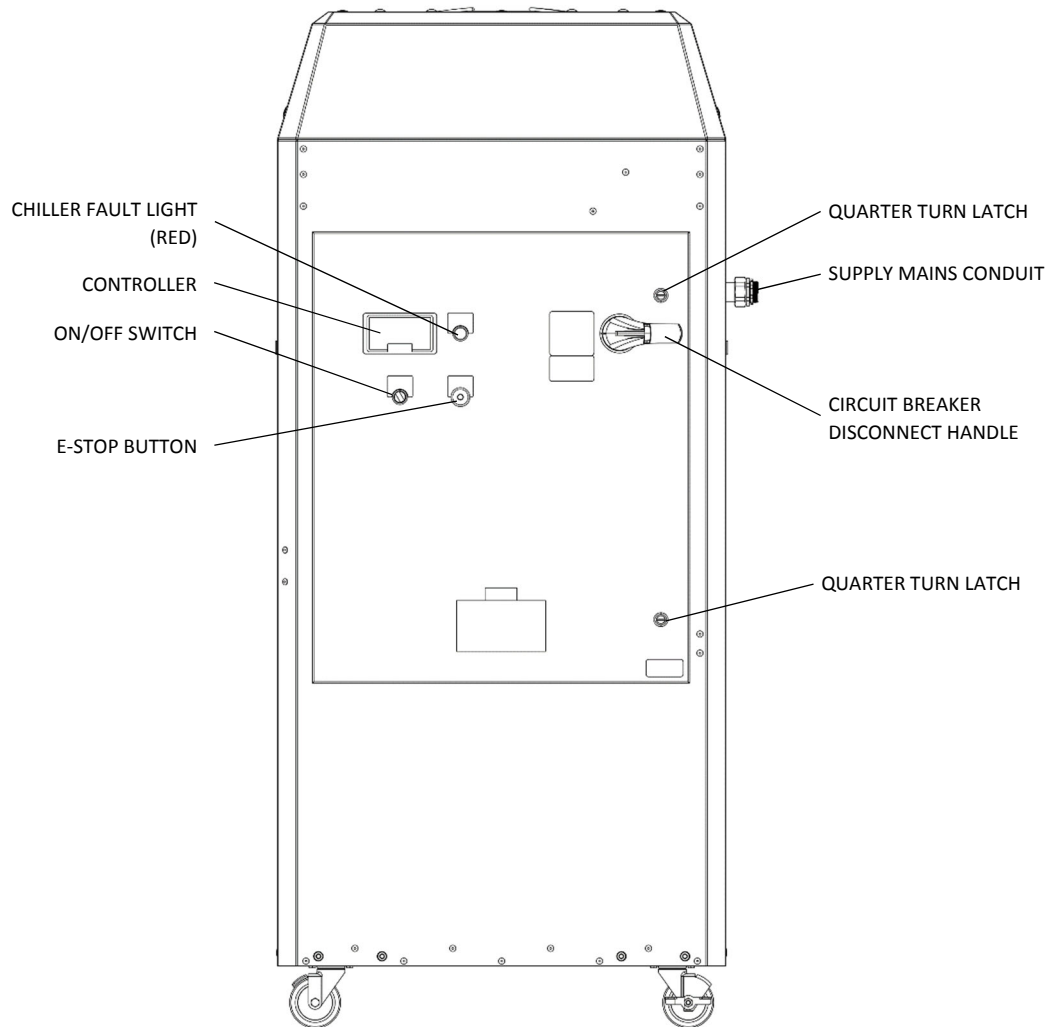

Figure 7: Chiller Electrical Enclosure Side
Note: This information can also be found on the chiller's data tag, located on the front of the electrical enclosure (refer to Figure 7, data tag not shown).
Follow the procedure below to connect the appropriate 3-Phase power to the chiller's main circuit breaker disconnect. The chiller is equipped with a 1-3/8" conduit fitting on the right side of the electrical enclosure (See Figure 7) to facilitate mains connectivity.
1. Open the electrical enclosure by turning the main circuit breaker disconnect handle to the OFF position and releasing the quarter-turn latches using a flathead screwdriver (refer to Figure 7).